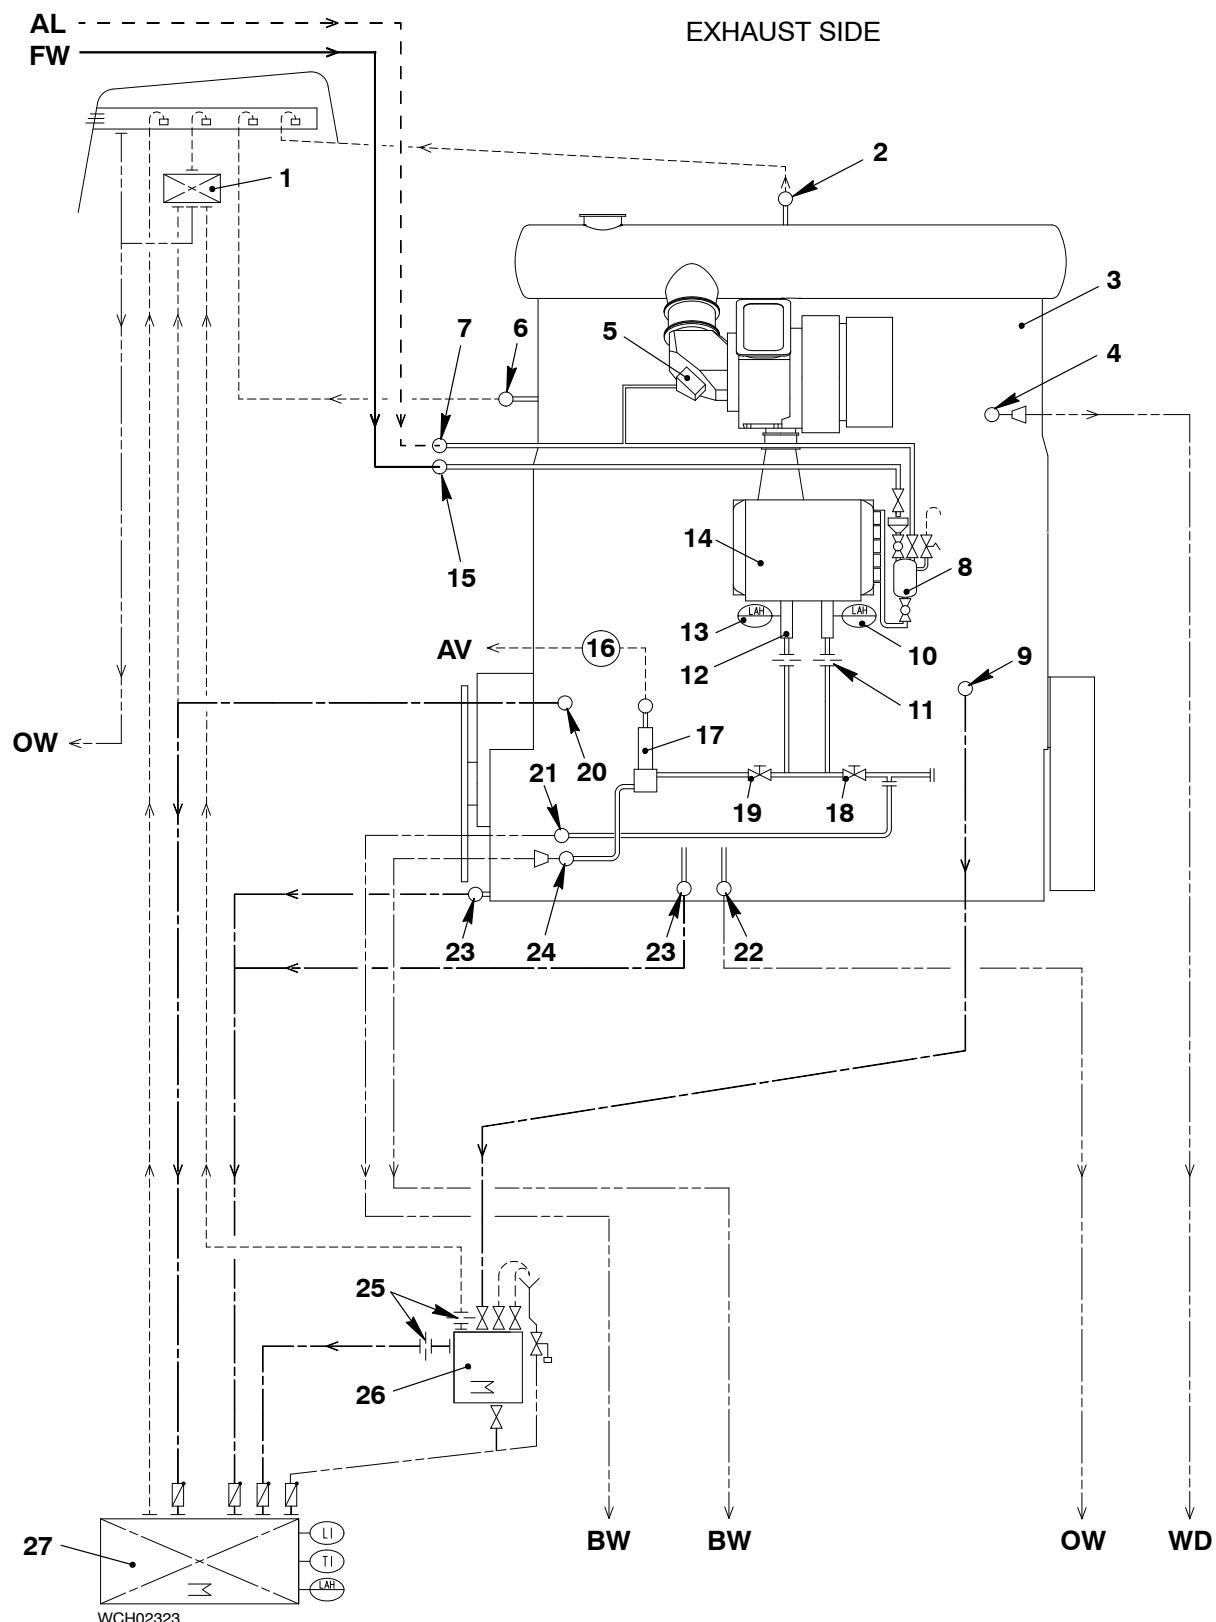

Fig. 1: Schematic diagram
- 2) Make sure that the ball valves (18) and (19) are in the position USUAL OPERATION (see Fig. 1).
- The ball valves (18) and (19) are in the position CLOSED (see Fig. 1).
- The scavenge air cooler (14) is defective (see 0550-1).
- If the orifices (11) are blocked and / or there is too much contamination in the condensate collector (12) (the filter is blocked).
- 5) To clean the condensate collector (12) and the orifice (11) do step a) to step c).
- b) Clean the condensate collector (12).
- c) Clean the orifice (11).
Key to Fig. 1